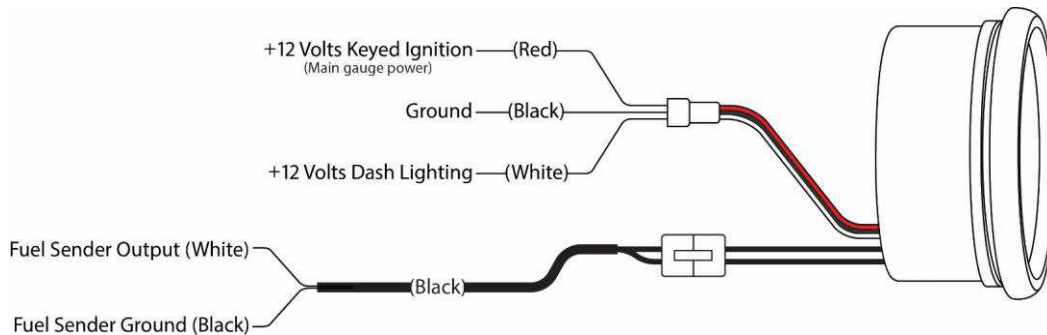

Figure 1
Figure 1 shows the gauge power, ground, and lighting wiring diagram as well as the sending unit wiring. If there is no fuel sender ground, connect that wire to a chassis ground.
2. Install the power, ground, and lighting wires as shown in **Figure 1**. Harness P/N 553-140 (available separately) allows you to unplug and discard the pigtails included with each gauge and connect up to 8 gauges together. This configuration makes it easy when multiple gauges are installed together, allowing the loose power, ground, and lighting wires to only be connected once.
- Press and release button until the pointer is pointing at the 'F' (**Figure 1**). Hold the button down for 2 seconds. Release the button. The pointer will now oscillate between 'E' and 'F'. You are now in Manual Programming mode.